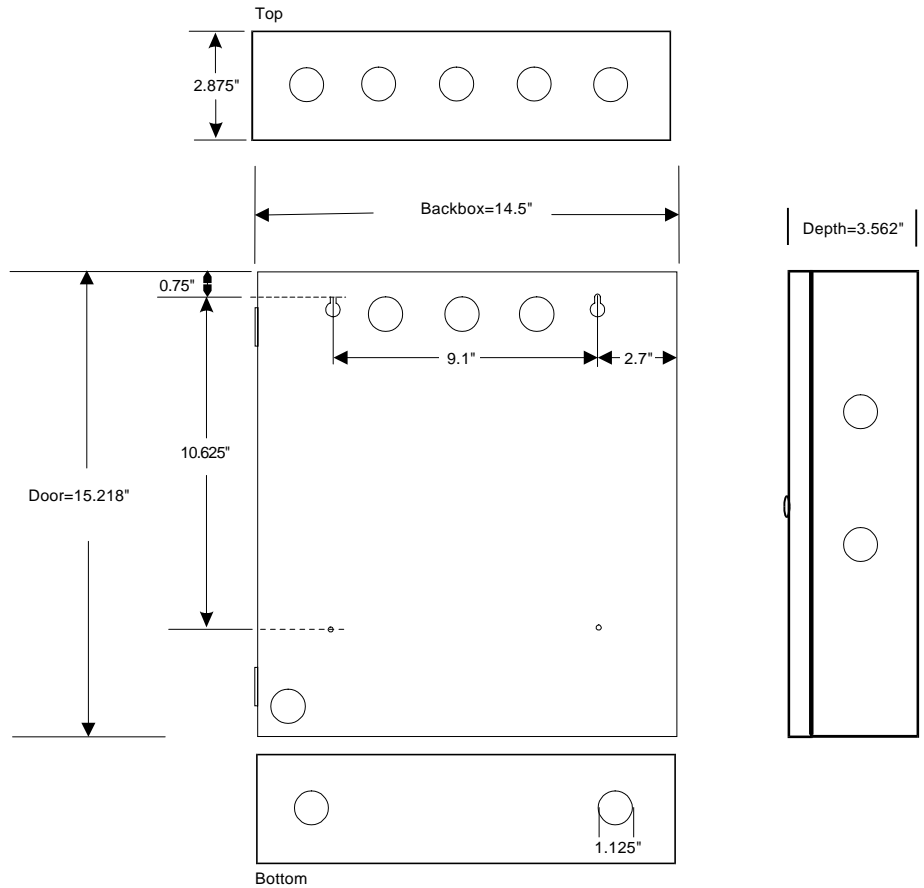

Figure 2-1: Backbox Mounting Dimensions
- 7) When the location is dry and free of construction dust, reinstall the main PC board (refer to Figure 2.1).